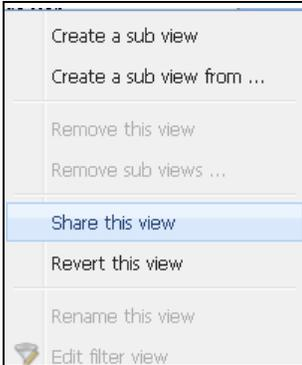

Figure 64. Contextual Sub-view Menu
1. Right-click the view to open the contextual menu (see Figure 64).